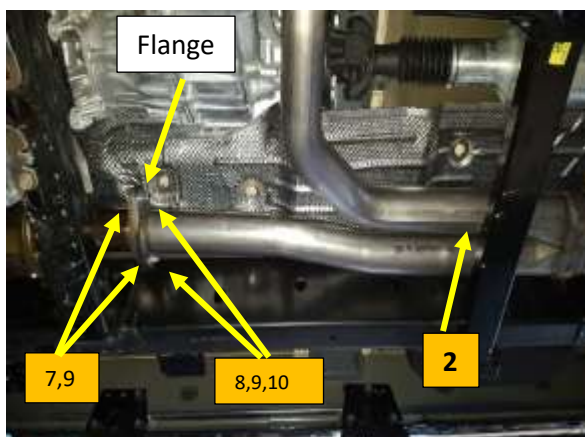
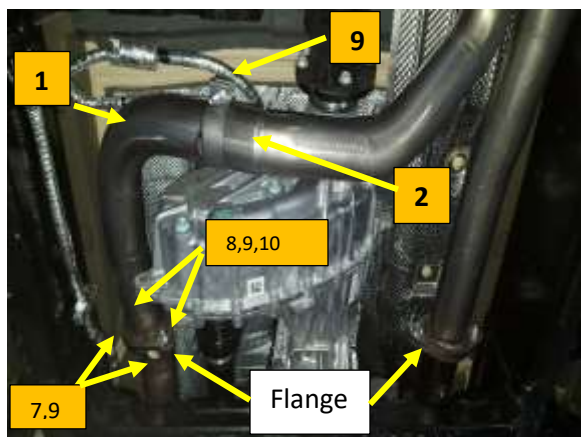

Figure 7
Figure 8
1. Install the Flowmaster scavenger pipe assembly (2) into the vehicle as shown in **Fig.7**. Support the scavenger pipe while assembling the scavenger inlet pipes to the catalytic converter flanges.
2. Install the OEM gasket between the right inlet pipe flange and catalytic converter pipe flange. Install the supplied 3/8-16 x 1-1/2" bolts (7) with flat washers (9) through the flanges. Install a second flat washer (9), lock washer (10), and nut (8) on each of the bolts. Leave loose for now.
3. Install a 3" band clamp (9) onto the scavenger inlet pipes expanded pipe with no flange, and position the clamp with the bolt facing the rear of the vehicle and nut facing down. **Fig.8**
4. Install the Flowmaster left inlet pipe (1) into the expanded slip joint on the scavenger pipe (2). **Fig.8**
6. Install the supplied 3/8-16 x 1-1/2" bolts (7) with flat washers (9) through the flanges. Install a second flat washer (9), lock washer (10), and nut (8) on each of the bolts.